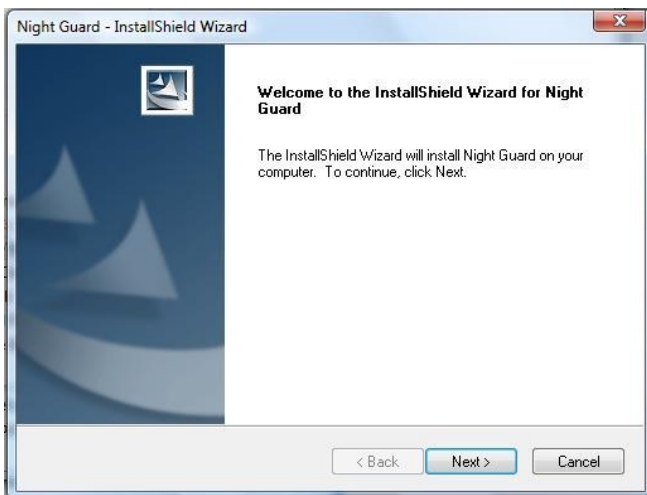
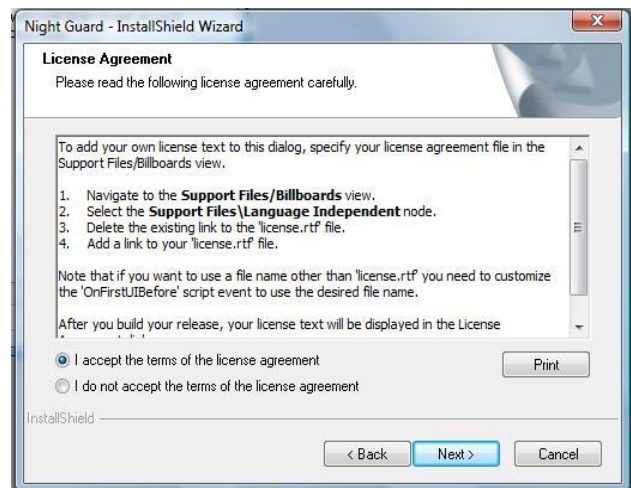
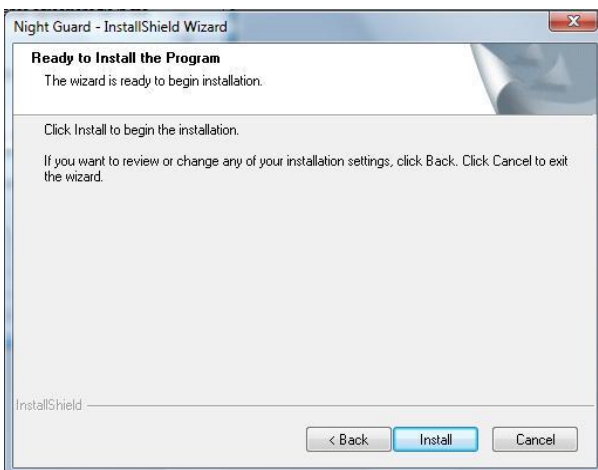

Fig. 1
Fig. 2
Fig. 3
- **Night Guard InstallShield Wizard** (Fig. 1) → click **Next** → **License Agreement** (Fig. 2) → select I accept the terms of the license agreement → click **Next** → **Ready to Install** (Fig. 3) → click **Install** → **Device Driver Installation Wizard** (Fig. 4) → click **Next** → **Completing the Device Driver Installation Wizard** (Fig. 5) → click **Finish** → **InstallShield Wizard Complete** (Fig. 6) → **Finish** → Restart windows.